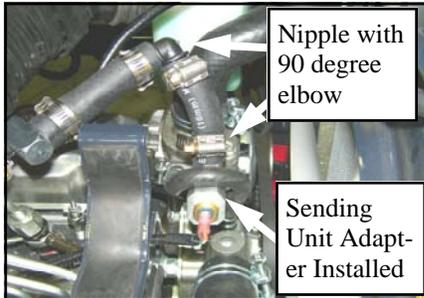

Fig. D-1 Adapter Installation
- D. Install the adaptor to the thermostat housing and install nylon washers so that the side port of the adaptor points up as shown. Using Teflon tape, install the 3/8" NPT nipple to the side of the adaptor as shown in Fig D-1. Reconnect sending unit wire. **NOTE:** If a single washer will not aim the side nipple correctly, remove the adaptor and install an additional washer. If nipple is still not aimed correctly, repeat the process using an additional small nylon washer between the hex bushing and the adapter. Reconnect the bypass hose routing it under the adaptor as shown.